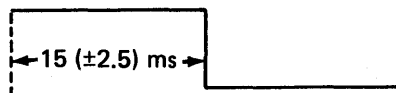

Figure 14. Start time pulse
- _____ Step 6. Alternately place switch S1 (FWD-REW) to the FWD position, release it, and depress the CLEAR switch on the control panel. Observe the oscilloscope. The signal displayed should compare with the signal in figure 14. The positive portion of the pulse should be 15 ± 2.5 ms.